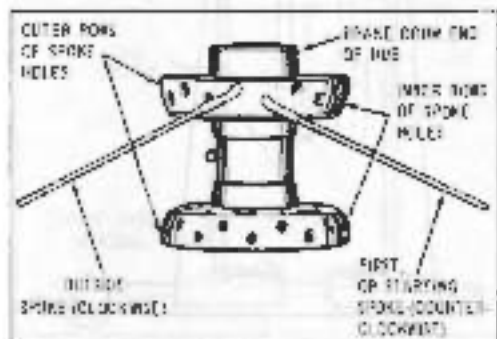

Figure 20-4. Starting Spokes in Wheel Hub
2. Insert spokes in ten inner spoke holes of brake side flange (see Fig. 20-4).